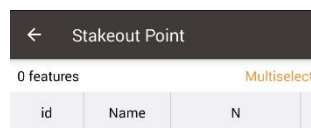

Figure 4.6 Add stakeout point
- Add stakeout point: click  to enter the stakeout point library which is shown in Figure 4.6 below, refer to section 2.4 for point library management.